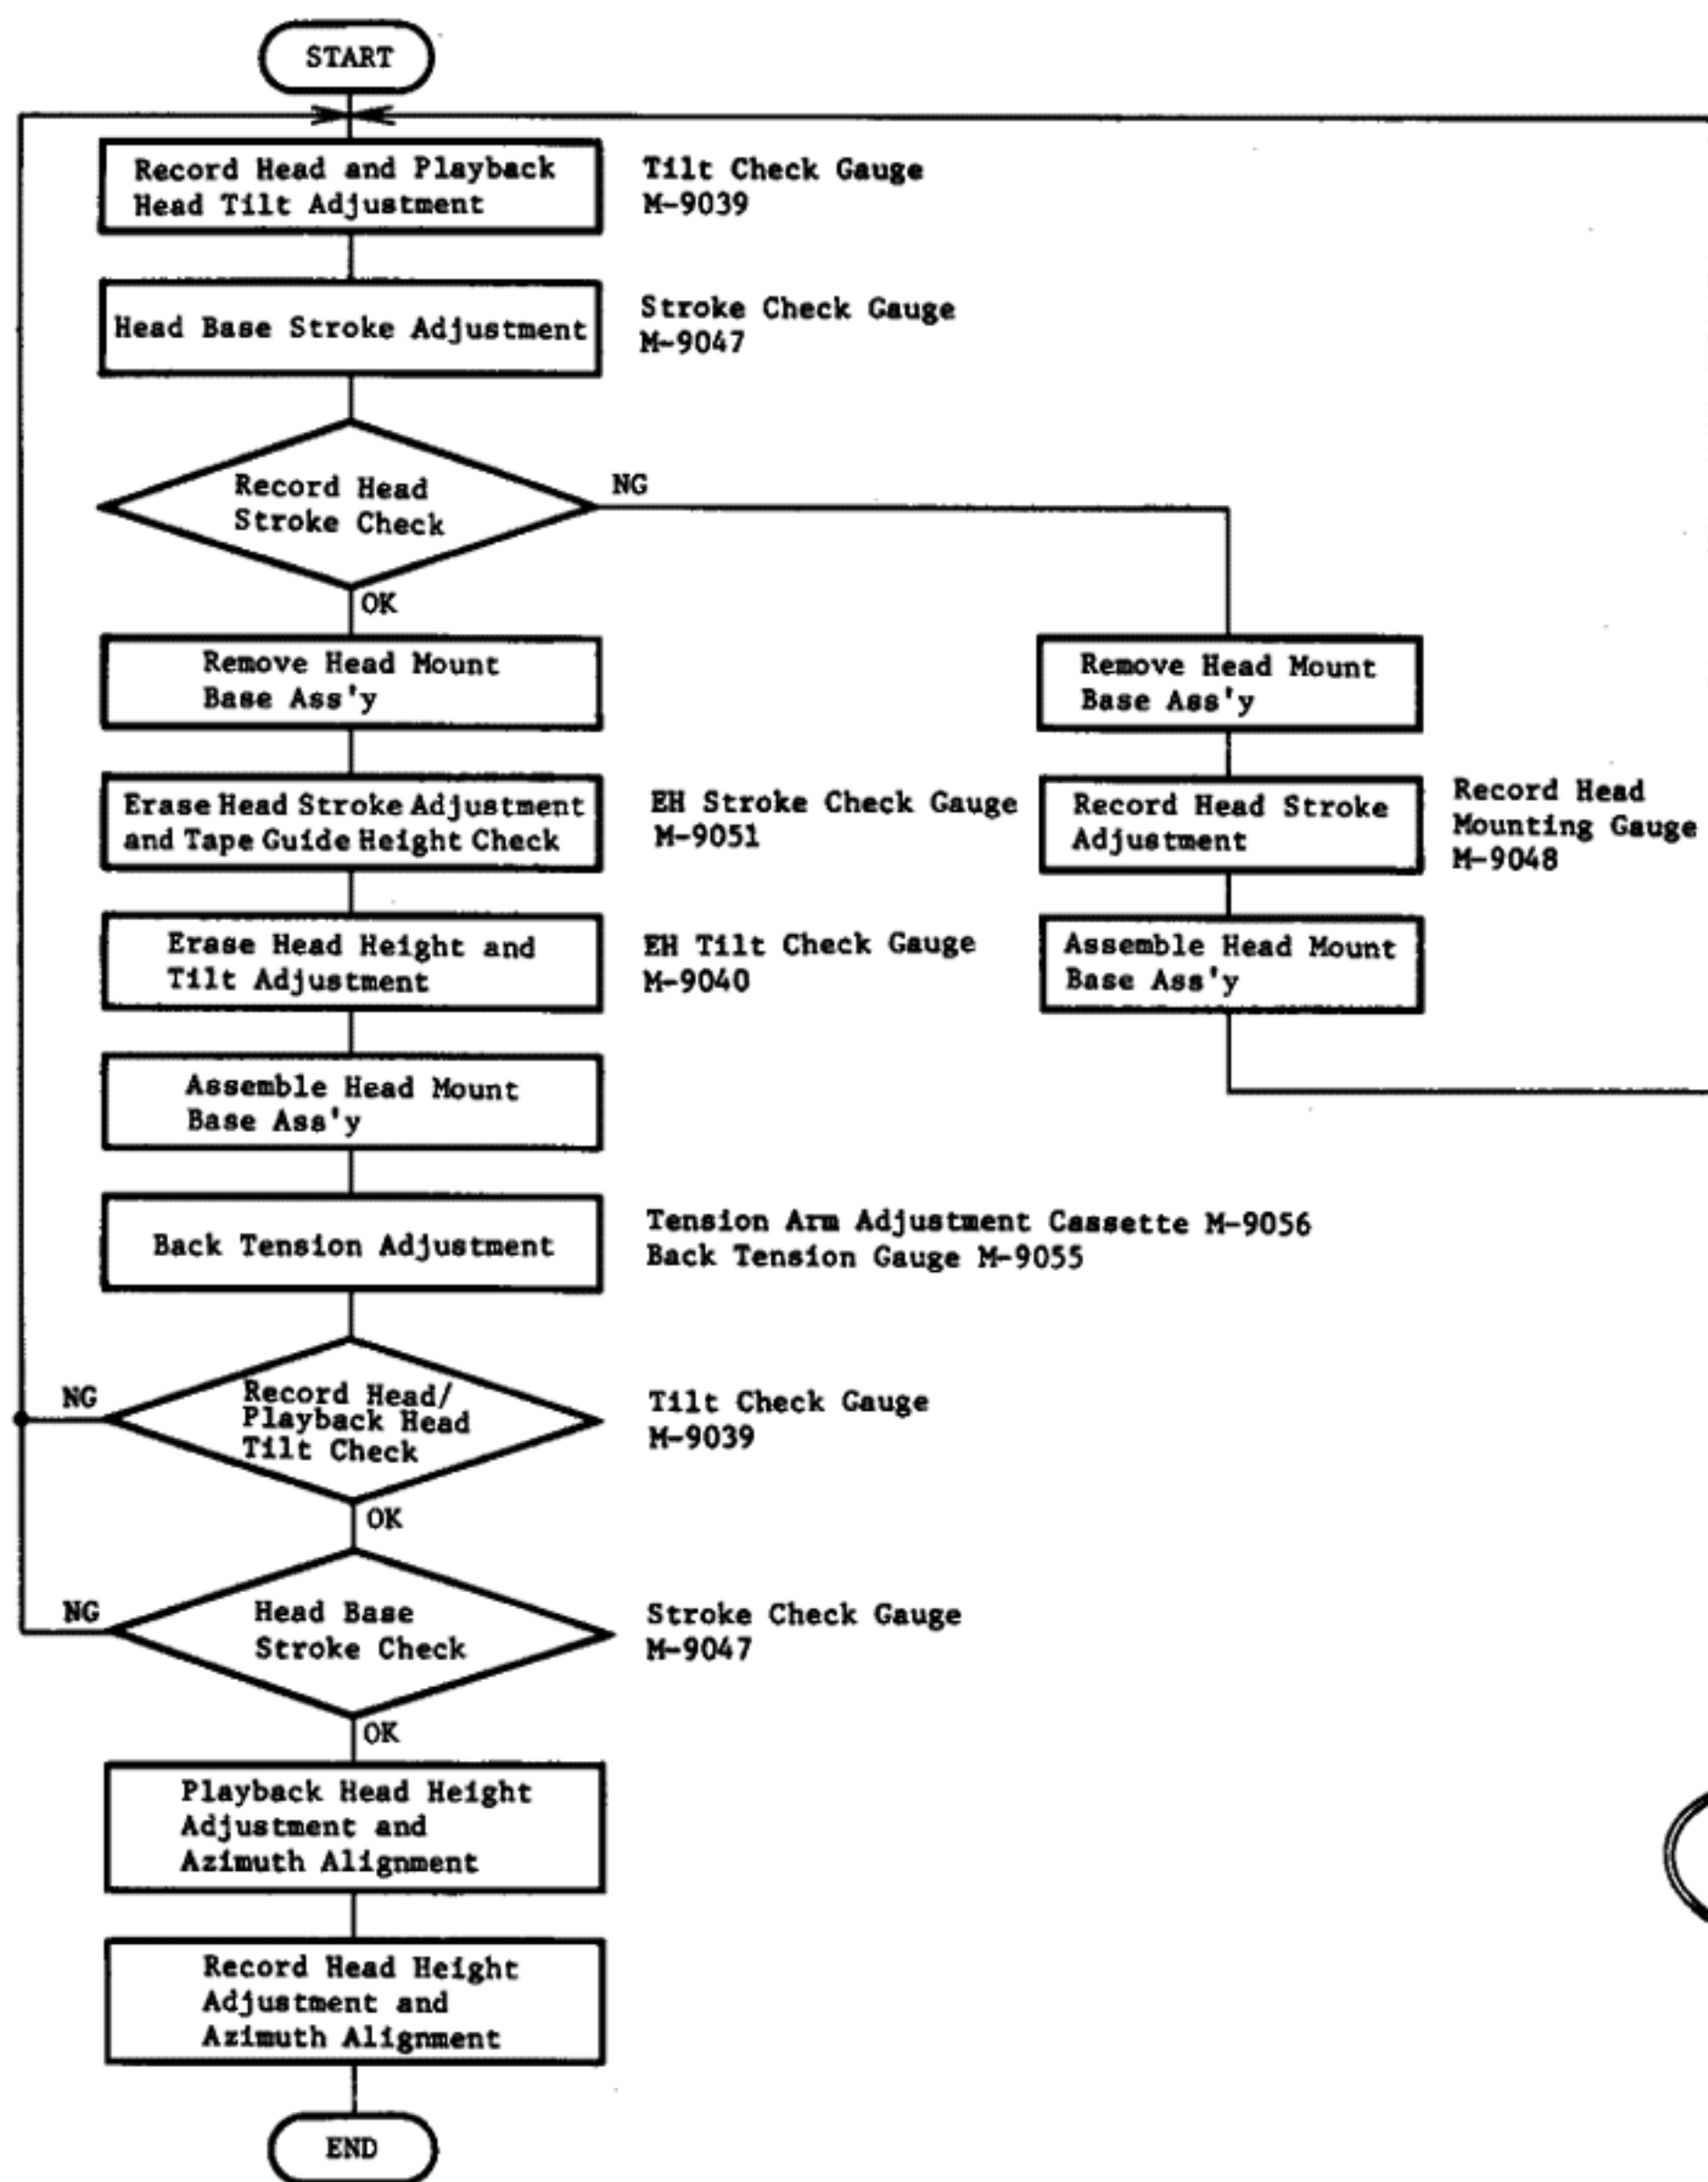
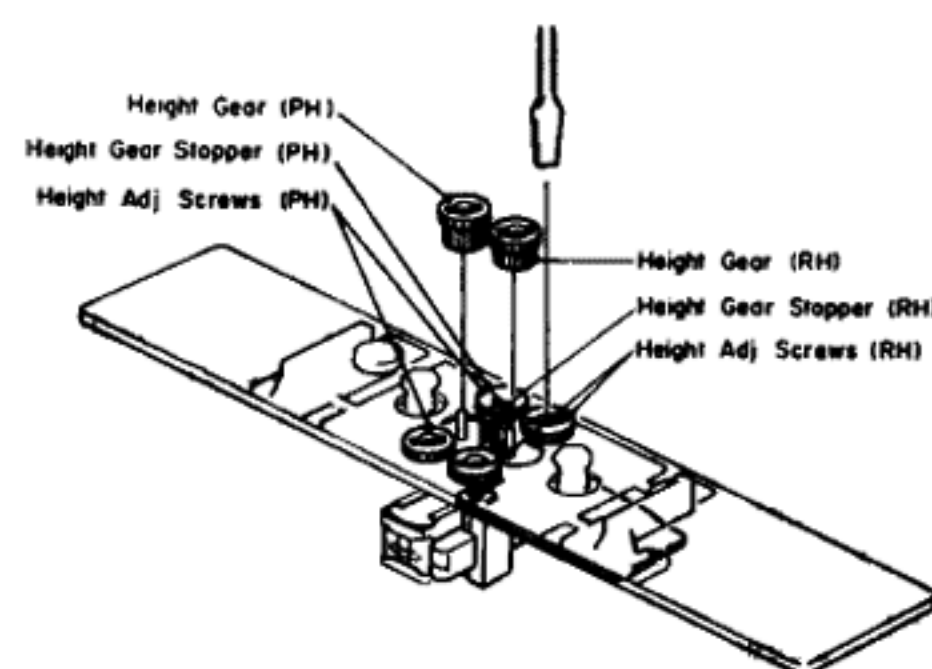

Fig. 2.2
Fig. 2.3
Note: On items 2.3 — 2.9, refer to Fig. 2.2 flow chart. Refer to Figs. 2.3 and 2.4.
- Beacon Playback Head "Lower" will light on when height adjustment screw (P) turned clockwise but Playback Head "Upper" when counterclockwise. Adjust so that both "Upper" and "Lower" will light on even when you move the slide knob to the direction of an arrow mark and then return it to the original place.
- Same procedures will apply to the Beacons Record Head "Upper" and "Lower", except for the height adjustment screw (R).
- Set the cassette deck in Stop mode and fit both of the serrated Height Gears. Then set the cassette deck again in Play mode and insure all of the 4 Beacons are illuminating. If not, (3) through (7) will have to be repeated till satisfactory results are obtained.